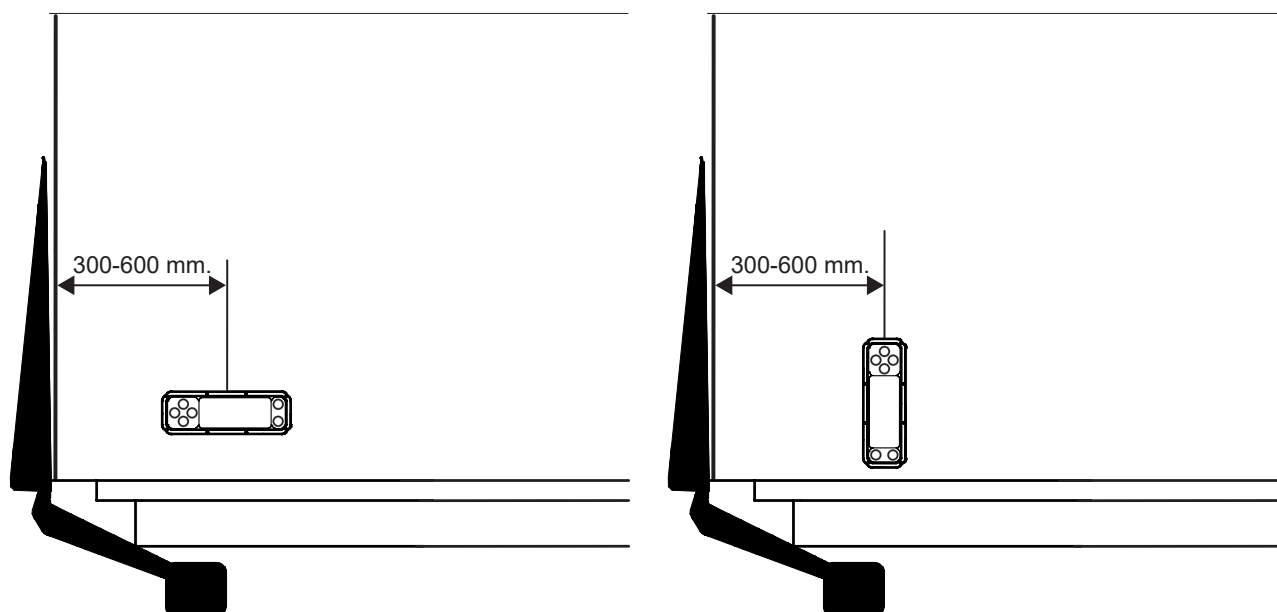

Figure 31. Installing controllers
5. Then install the controller securely on the body. See Figure 31